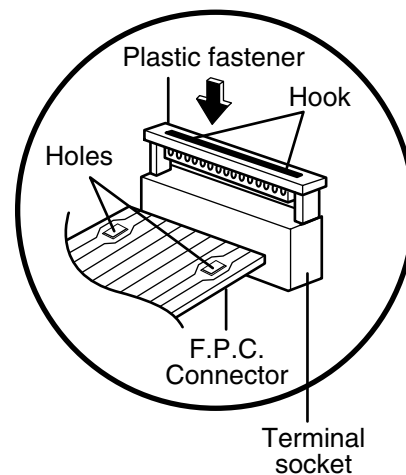

Figure 6
Follow the steps below as illustrated in Figures 6 and 7 to insert the F.P.C.connector.
- (1) Insert the F.P.C.connector into the terminal socket securely with the fingers.
- (2) Hold the plastic fastener with thumb and forefinger of the other hand, and push it slowly into the terminal socket.(Figure 6)